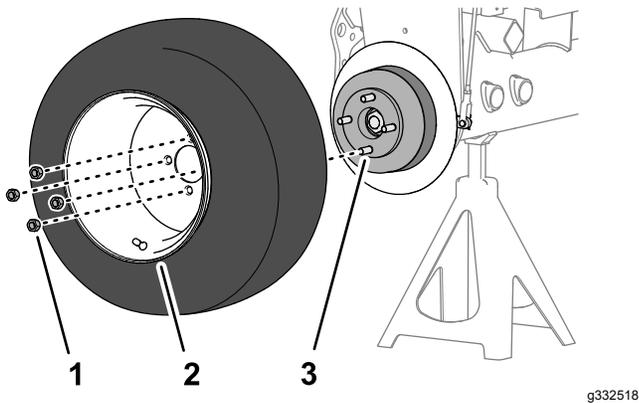

Figure 88
1. Assemble the wheel to the hub with the 4 lug nuts (Figure 88), and tighten the lug nuts by hand.